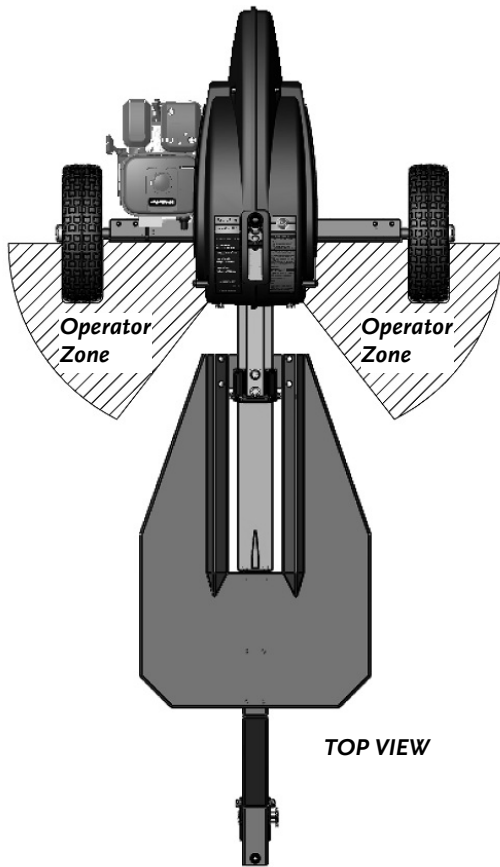
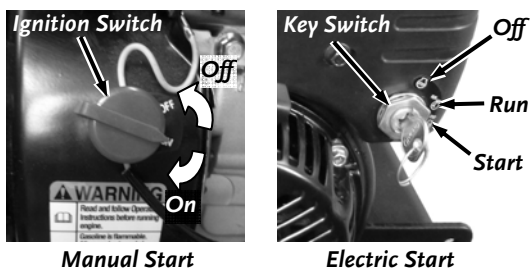

Figure 17
Figure 19
- When operating the Log Splitter, make sure you are standing in the safe operating area (OPERATOR ZONE) as shown in **Figure 17**. You must stay in the safe operating area at all times when the ram is in motion (whether extending or retracting). Never place any part of your body into a position that causes an unsafe operating condition.
5. Manual Start: Turn the Ignition Switch to the “On” position (**Figure 19**). Grasp the recoil starter handle and slowly pull until you feel resistance (**Figure 17**). Let the cord retract a little bit then pull the cord rapidly to start the engine. One or two pulls usually starts the engine.
6. Electric Start: Turn and hold the Key in the “Start” position until Engine starts then let the Key return to run position (**Figure 19**).
2. Manual Start: Turn the Ignition Switch to the “Off” position (**Figure 19**).